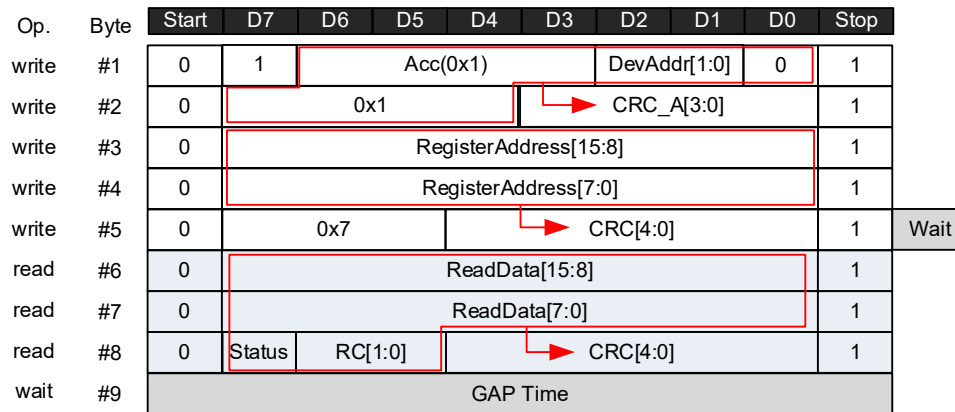

Figure 23. Register read mode frame
- 16-bit register read (Figure 23)
See the read frame structure on Figure 23 where: